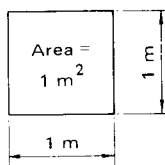

Fig. 1.30
**Units of area.** The area of a figure is measured by seeing how many square units it contains. A square metre is the area inside a square which has a side of 1 metre (Fig. 1.30). Similarly a square millimetre is the area inside a square which has a side of 1 millimetre.